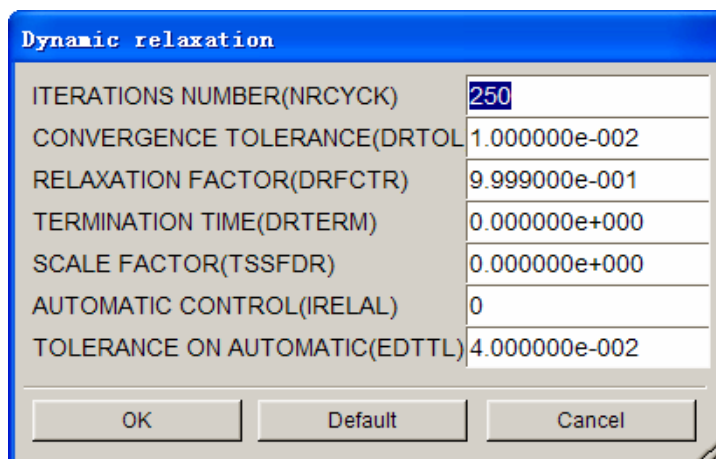

Figure 8.2.98 Advanced Parameters of Dynamic Relaxation Calculation
**ADVANCED...:** Advanced parameter setup of dynamic relaxation. The interface is shown in Figure 8.2.98.